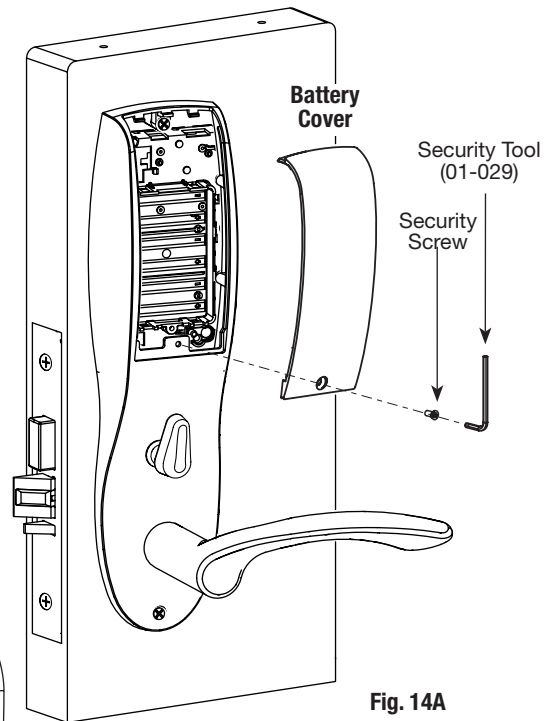

Fig. 14A
1. To install or replace batteries, first remove the battery cover (if necessary) using the provided security tool (Fig.14A).
6. Secure with the security screw using tool. (Fig. 14A).